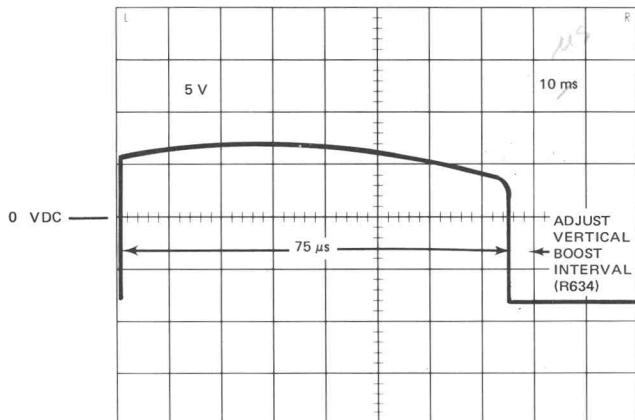

Fig. 5-7. Vertical Boost Interval.
- d. CHECK—Test oscilloscope should display positive-going pulse of  $75 \mu\text{s}$ ,  $\pm 5 \mu\text{s}$  (see Fig. 5-7).